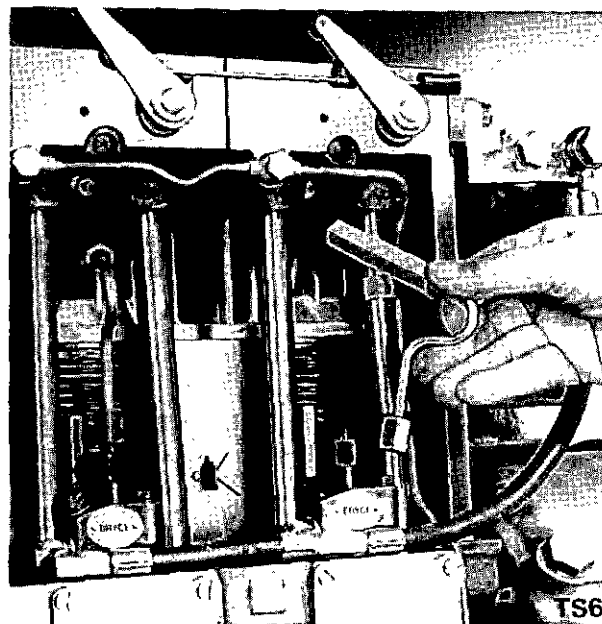

Fig. 25 Removing Fuel Pipe between Fuel Pump and Injector.
- (c) Remove fuel pipes—pump to injector (Fig. 25).